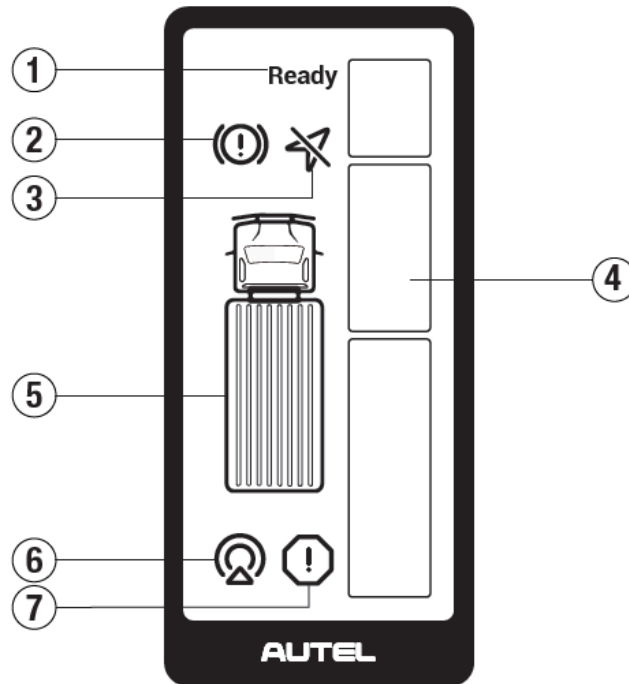

Figure 1-4 Description of warning light
- **Level 1 warning:** The steering wheel angle is less than 30° , and the target enters the warning range, then a section of warning light LEDs, displayed in Figure 1-4, light up.